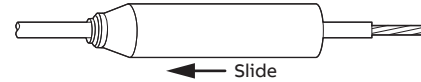

Figure 7
4. Apply silicone grease over cable insulation. Slide cut flood seal over cable (Figure 7).